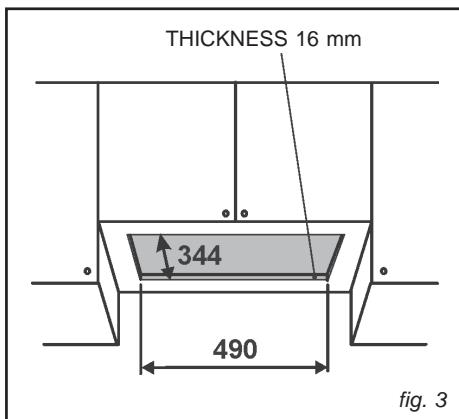

fig. 3
- Cut a hole in the bottom of the pensile cupboard in order to settle the appliance (Fig. 3). The pensile cupboard bottom must be 16 mm thick.
- Insert the appliance in the hole (Fig. 3).
- Install the wiring system. Insert the appliance in the hole (Fig. 3).